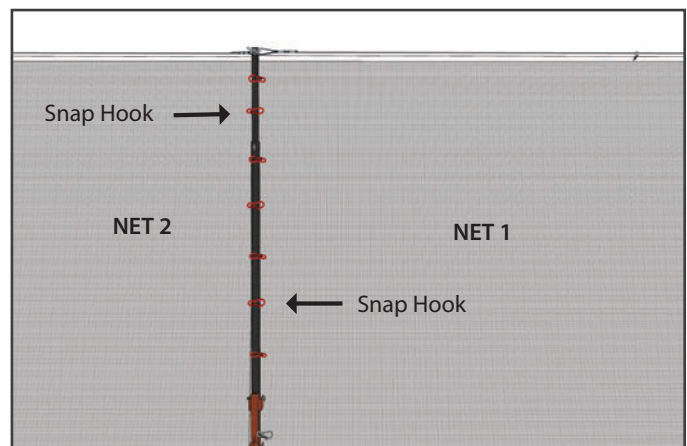

Fig. 17
1. In order to make sure that the nets are attached to each other, you must connect the sides of the nets together. Working on the left and right side of each net, pull a snap hook and connect it to the net next it. Make sure the snap hooks are snapped to border rope of each net and are staggered evenly all the way from the top to the bottom. (see figure 17)